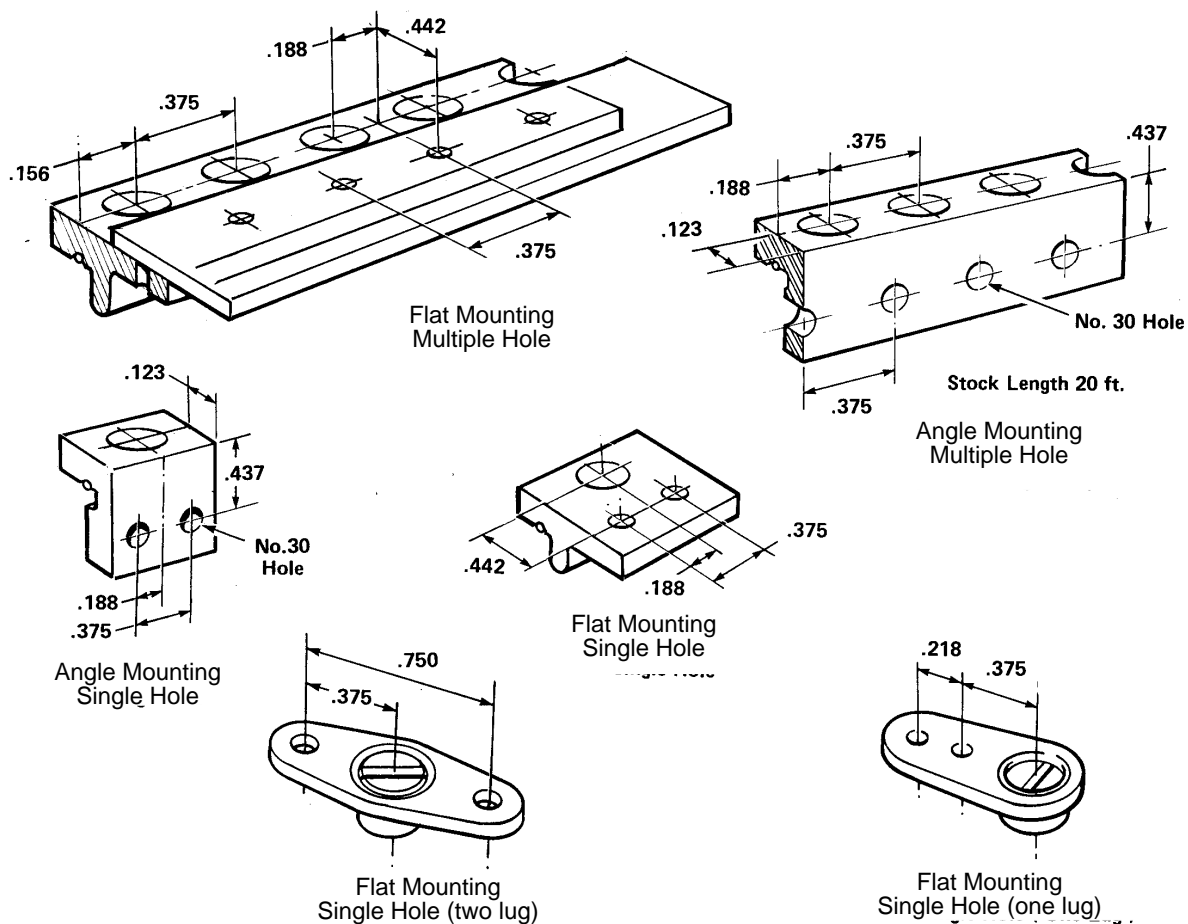
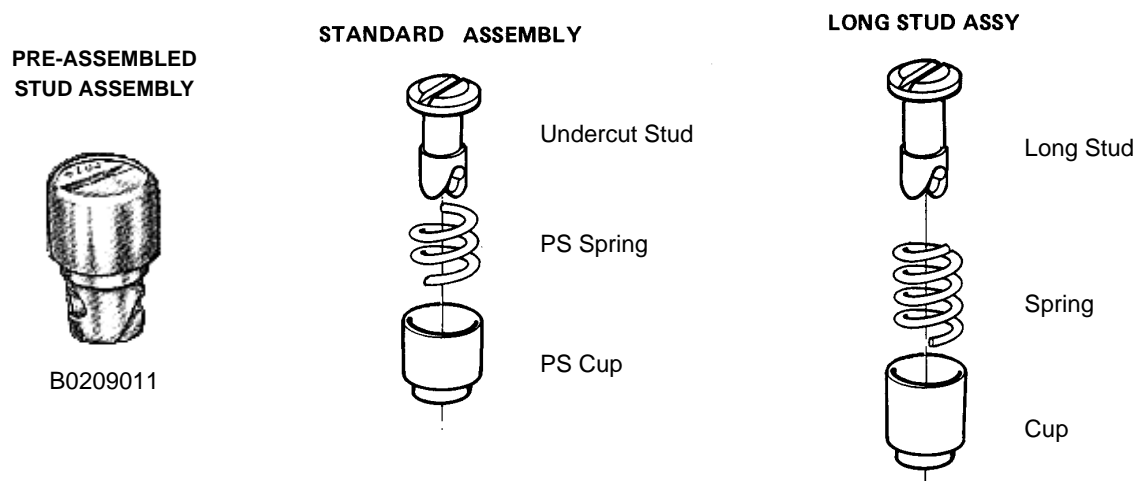

Figure 1 - General Description and Dimensional Configuration of Receptacles
Figure 2 - General Description of Stud Assemblies
- 4.1.1 Panel fasteners as specified on the engineering drawing. Refer to Figure 1 for a general description and dimensional configuration of the panel fastener receptacles. Refer to Figure 2 for a general description of the panel fastener stud assembly. If the engineering drawing specifies use of a non-pre-assembled stud assembly, it is acceptable to substitute the appropriate size B0209011 pre-assembled stud assembly.
- 5.2.2.1 Lay out the locations of rivet holes and, if necessary, stud clearance holes for receptacles, on the part according to the dimensions shown on the engineering drawing. If the engineering drawing does not define the location of holes for receptacle installation, refer to the dimensions shown in Figure 1 for the particular type of receptacle to be installed.